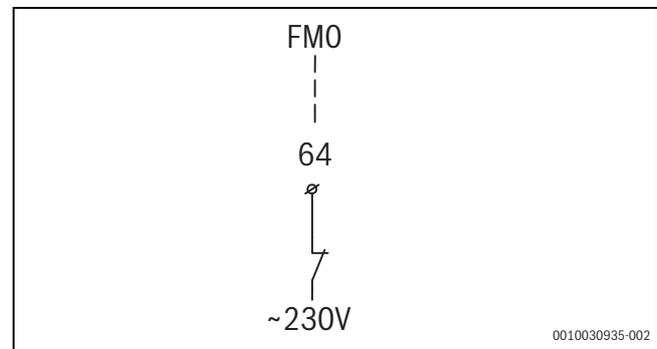

Fig. 33 Connection for external booster heater with 230 V alarm output
- ▶ Connect 230 V alarm signal (AC) as shown in figure 33 to the installer module at terminal **FMO** (→ Chapter 12.4, page 40 [26]).